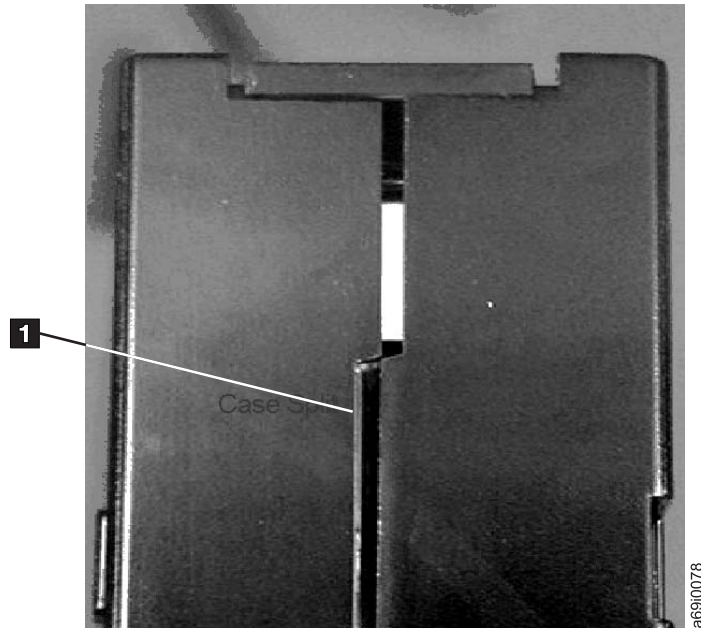

Figure 50. Gap in cartridge seam
3. Inspect the rear of the cartridge (the part that you load first into the tape load compartment) and ensure that there are no gaps in the seam of the cartridge case. (Refer to **1** in Figure 50 on page 231. If there are gaps in the seam, the leader pin may be dislodged and may need to be repositioned.)